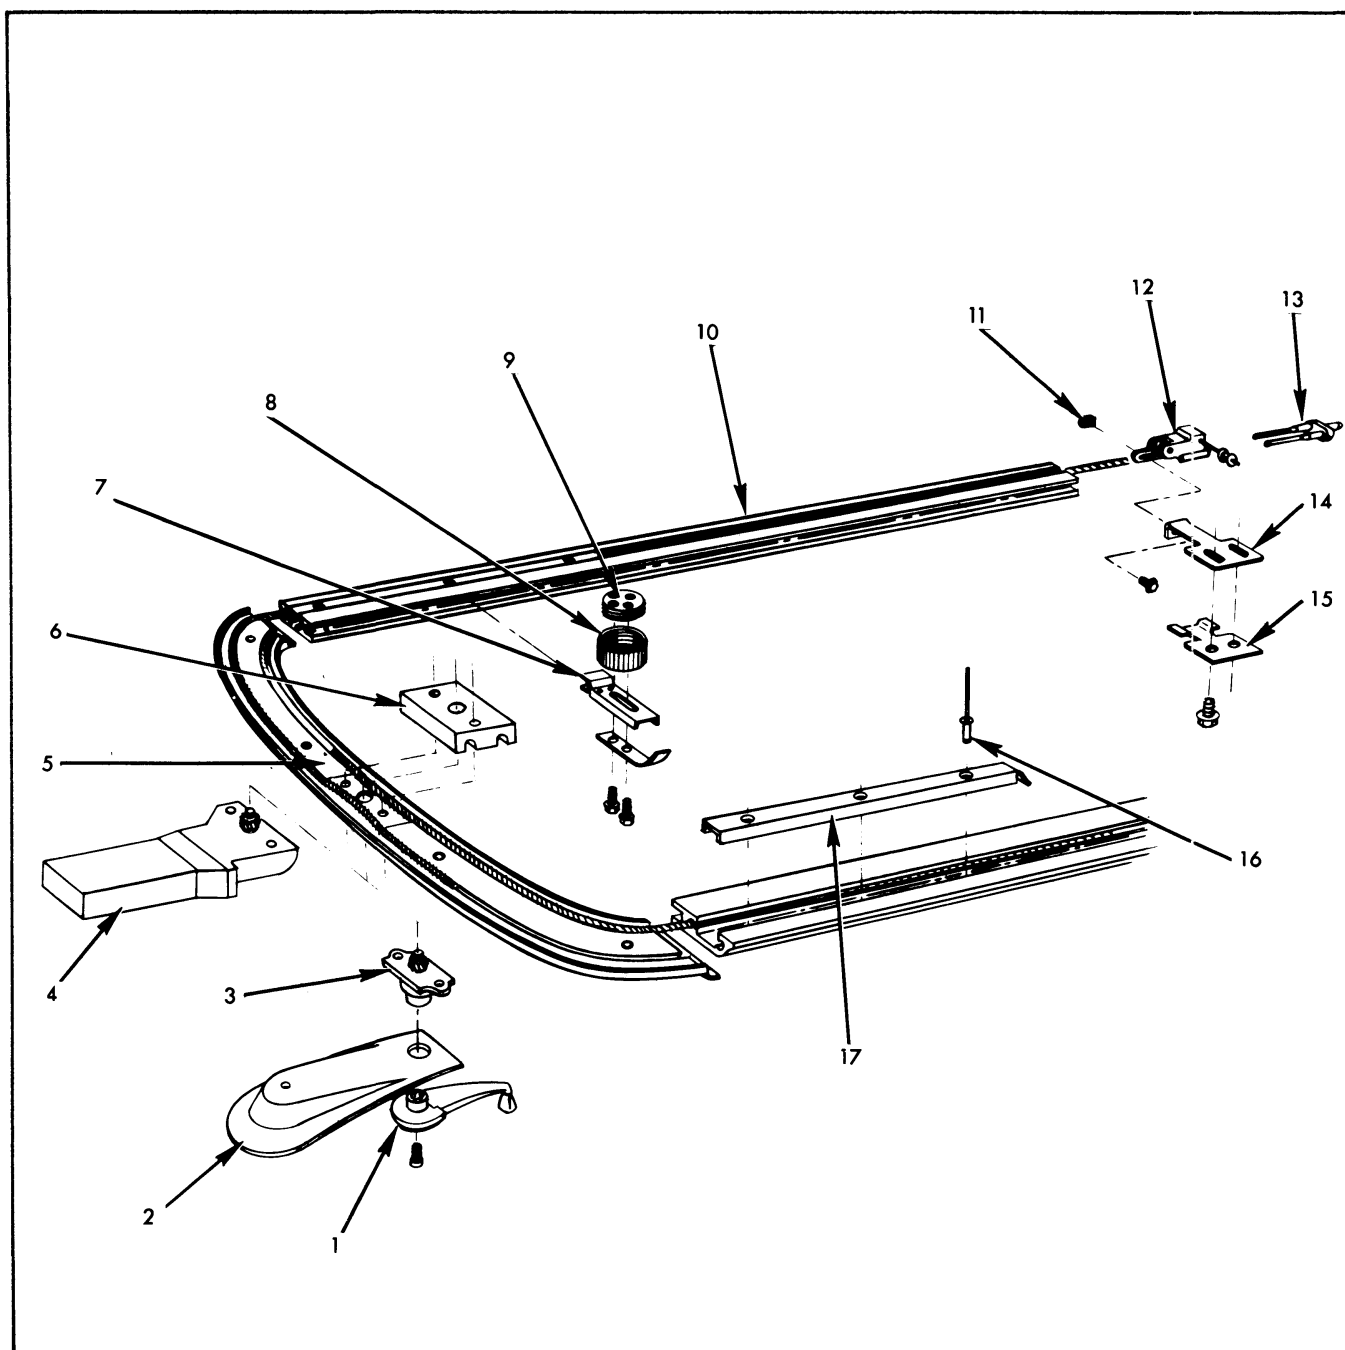

Fig. 8-42-Sunroof Hardware
The manual version of the sunroof is operated by a folding type crank handle also located in the windshield header. Counterclockwise rotation of the handle opens and clockwise rotation closes the sunroof. The crank handle is stowed in a recessed escutcheon when not in use (Fig. 8-42).
Figure 8-42 identifies hardware components of the sunroof assembly and their relationship.
2. With roof panel closed, remove drive assembly (manual sunroof) or motor and drive gear assembly (power operated sunroof) (Fig. 8-42).